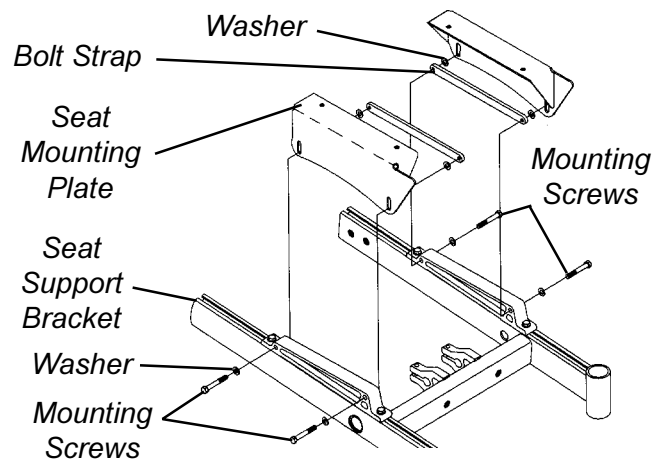

FIGURE 1 - REPLACING SEAT MOUNTING PLATES
**REPLACING SEAT MOUNTING PLATES (FIGURE 1)**
2. Perform one (1) of the following:
3. Remove the two (2) mounting screws, washers and bolt strap bracket that secure the seat mounting plate to the seat support bracket.
4. Secure NEW seat mounting plate with existing two (2) mounting screws, washers, and bolt straps to seat support bracket using Loctite 242 and torque to 156-inch pounds.